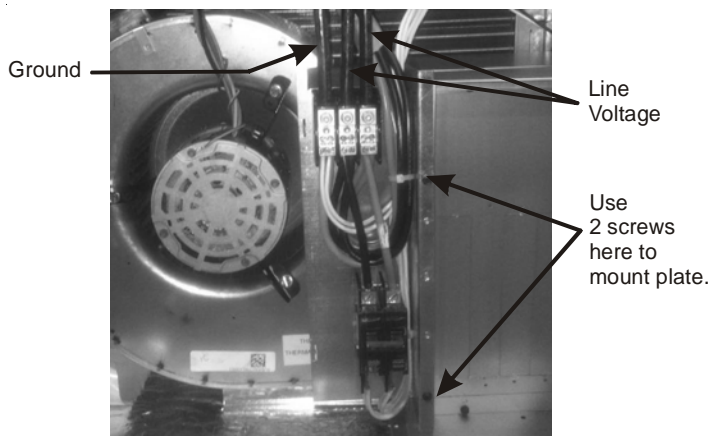

Figure 2
4. Remove the 2 screws from the electric heat compartment and use these to mount the single point assembly as shown in Figure 2.
8. Connect the ground wire to the lug on the far left (Figure 2).